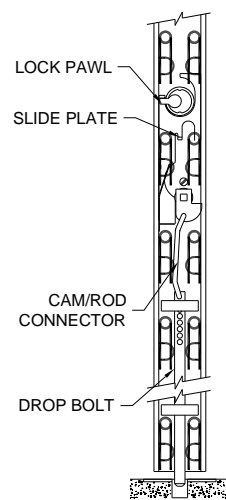

Fig. 5-4
5. Calibrate the closing channel drop bolt by following these steps (shown in Fig. 5-4):